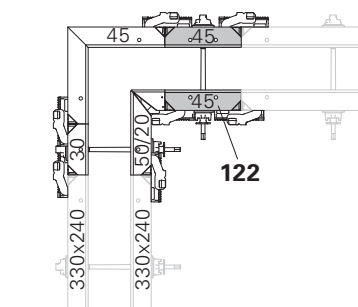

Fig. C1.08
Max. panel width between corner and subsequent panel is 45 cm – MX 18, 330 x 45 (122). (Fig. C1.08)